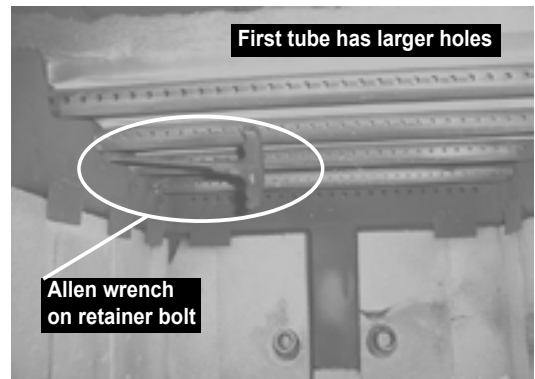

Figure 32.3
3. With a 3/16 inch Allen wrench, remove 2 front manifold tube retainer bolts on the air channel under the end of the front tubes. **NOTE:** Soak the bolts with penetrating oil for at least 15 minutes before trying to remove them. **Figure 32.3**